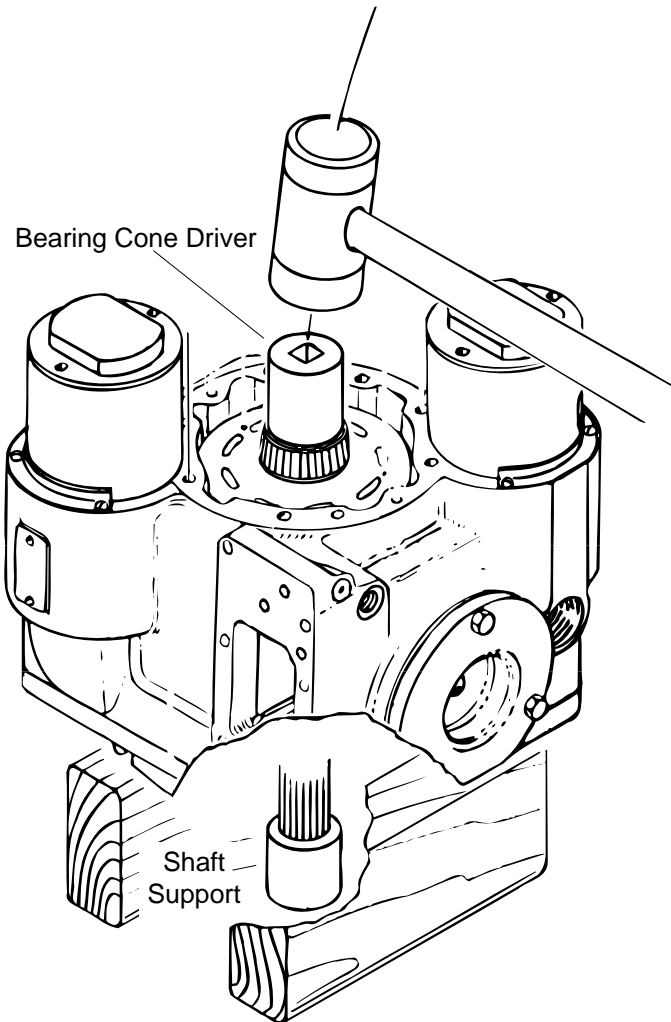

Figure 22
**79** Support the pump's shaft and use a bearing driver to install the end cover bearing cone, see figure 22. Be sure the bearing cone is seated against the shoulder of the shaft.